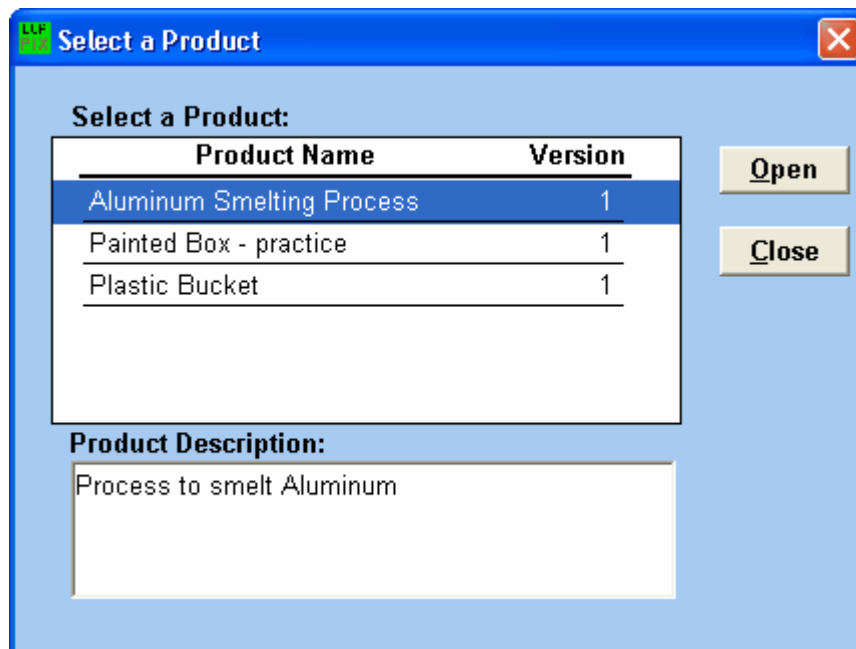

Figure 10: The Product Selection Window is to choose a product to analyze.
2. Click on the **Determine** icon or choose Determination -> Run from the drop down menus. This will bring up the Product Selection as shown in Figure 10.